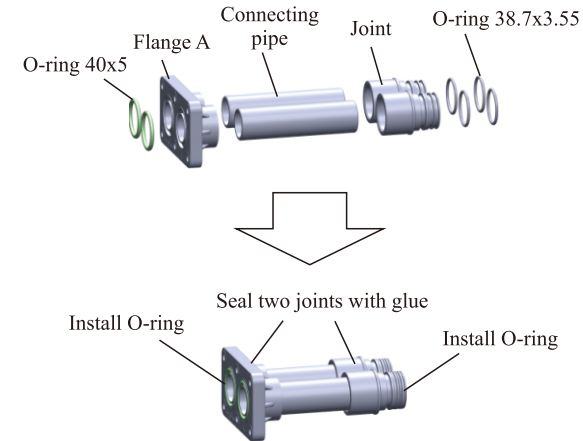

Figure 2-1-1
1. As Figure 2-1-1 shows, glue the pipe, flange A and joint, and then install the corresponding O-ring into the joint and flange A respectively (2 pieces in total).